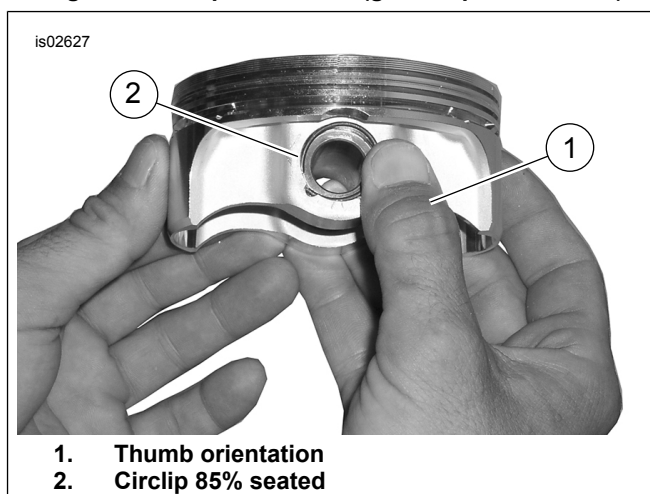

Figure 3. Install Circlip (generic piston shown)
- See Figure 3. Position your thumb (1) as shown, and press firmly until approximately 85% of the circlip (2) is seated in the groove.